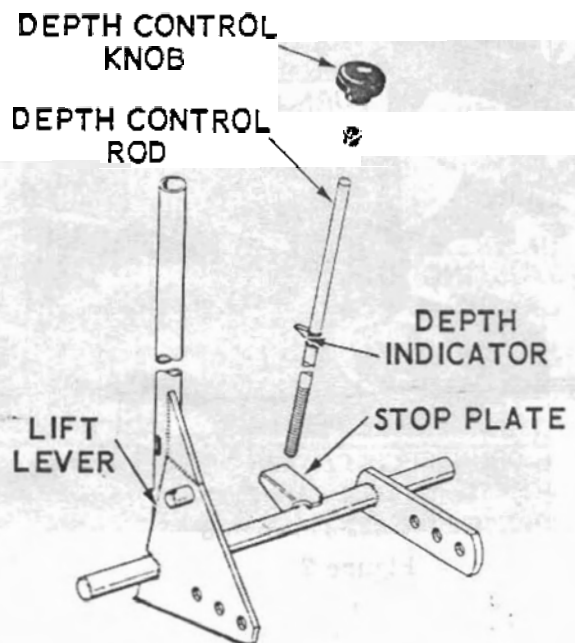

Figure 6.
4. Place lift lever in the fully lowered position and connect the lift links to the front holes in the tractor lift lever. The depth control indicator (Figure 6) must be in the highest setting (at the top of the dash notch) in order to lower the lift lever sufficiently to install the link pins on Model 220, 222, 442 and 444 tractors. Model 644 and 646 Wheel Loaders do not have the depth control indicator.